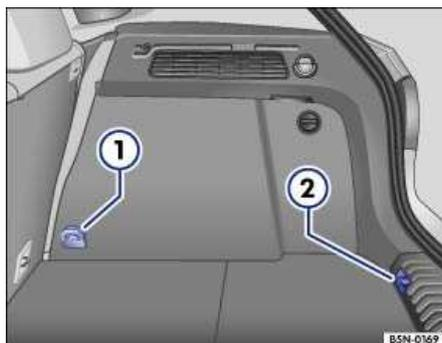

Fig. 91 Tie-downs with the luggage compartment floor installed.
The luggage compartment is equipped with tie-downs to secure luggage and other items. Two tie-downs ⇒ Fig. 91 (2) are located at the back of the luggage compartment. The other two tie-downs (1) are on the left and right near the rear bench seat of the vehicle.